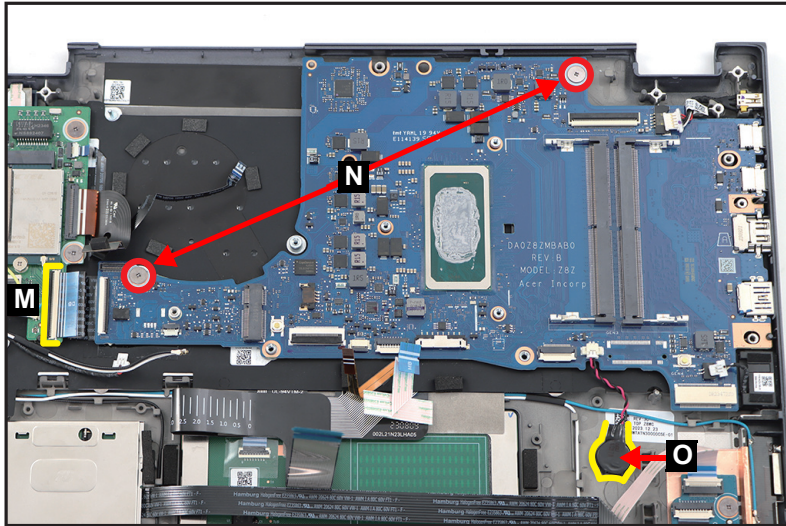

Figure 1-48. Mainboard Removal
12. Disconnect the LTE board FFC from the LTE board connector (M) (Figure 1-48).
13. Remove two (2) screws (N) securing the mainboard in place (Figure 1-48).
14. Pry to detach the adhesive tape underneath the RTC battery (O) (Figure 1-48).